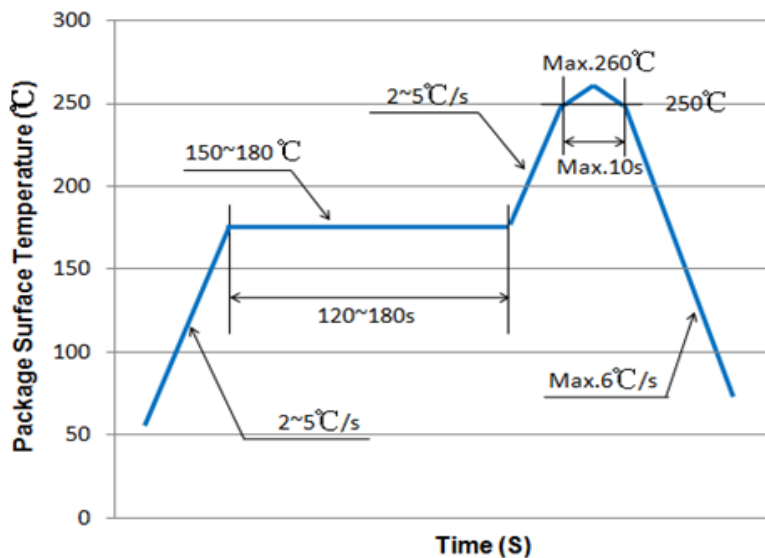

Figure 9 Reflow Profile
- Figure 9 is the reflow profile for Pb free process.